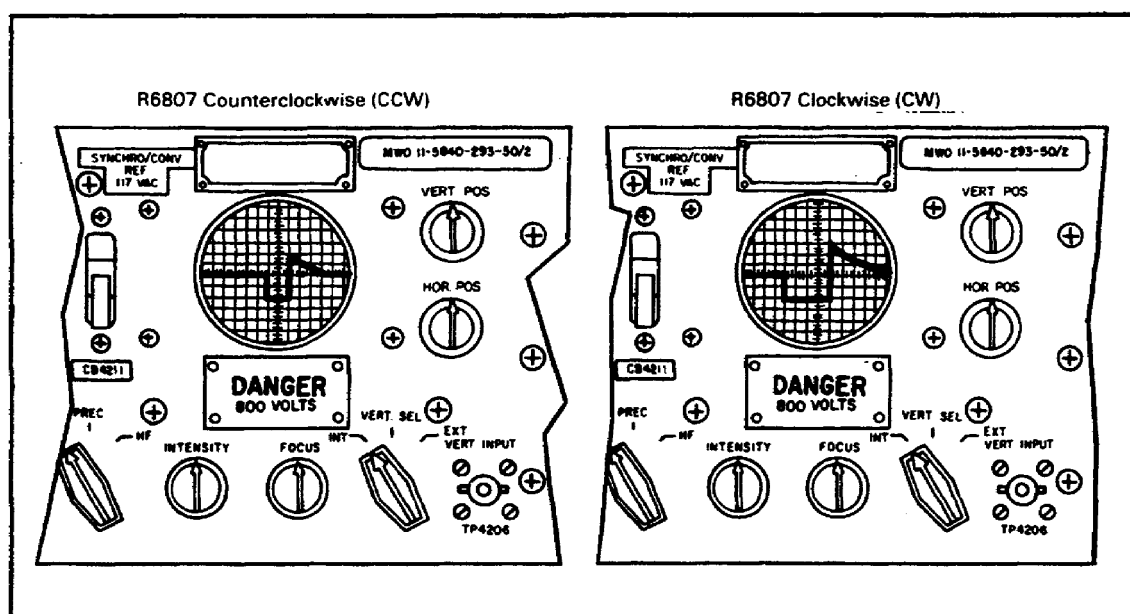

Figure 55. B-trigger delay adjust control R-6807, full range.
p. On 0-1284/FPN chassis, rotate B-trigger delay adjust control R-6807 through its full range while observing test synchroscope. (Note the two extreme positions of the trigger delay gate on the CRT of C-2124/FPN-33.) (See Figure 55.)